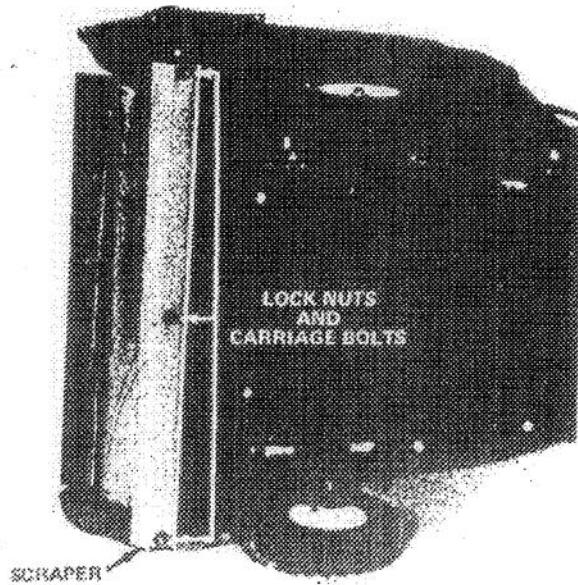

Figure 14.
3. Remove three lock nuts and carriage bolts holding scraper against bottom of impeller housing (Fig. 14).
4. Install new scraper with three carriage bolts and lock nuts (Fig. 14).